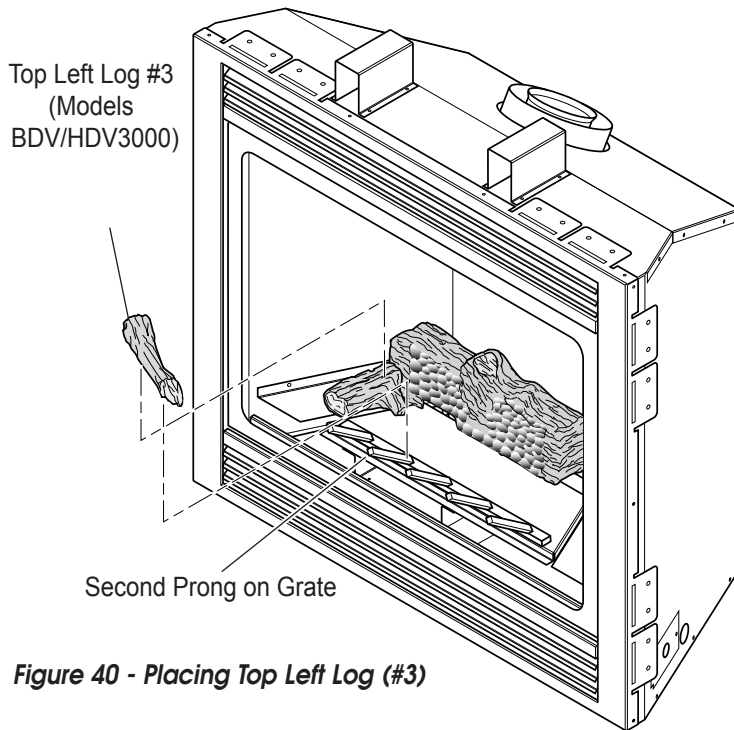

Figure 40 - Placing Top Left Log (#3)
3. For models BDV/HDV3000, Place top left log (#3) on bottom left log and second prong of grate. See Figure 40.